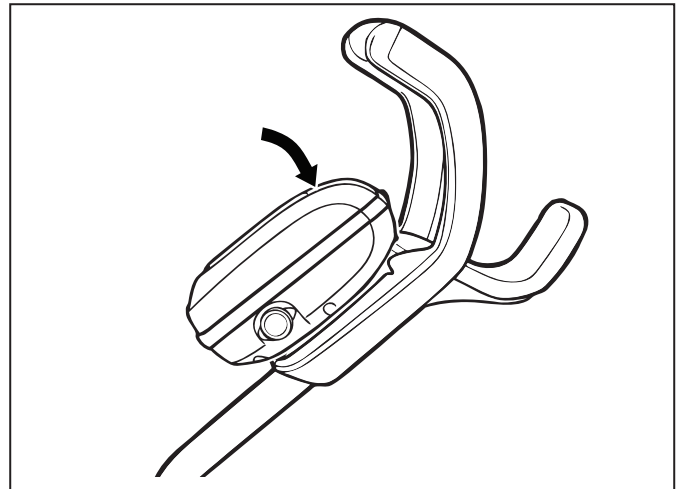

Figure 10. Attach the Control Unit onto Caddy
- Press control unit onto the caddy hook until it snaps and locks into position (Figure 10).